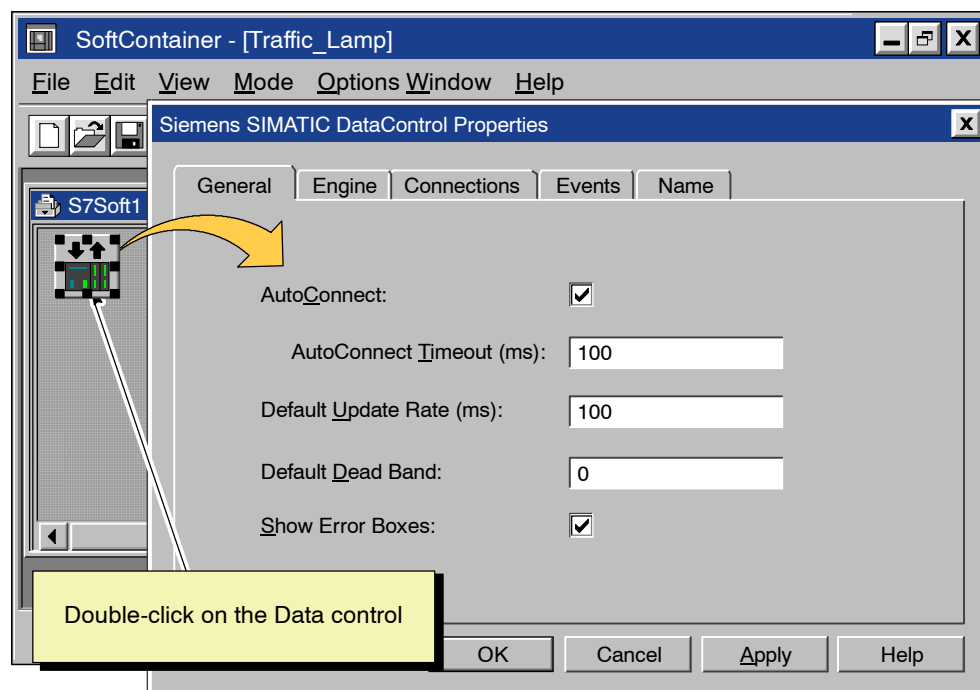

Figure 3-12 Accessing the Properties Dialog Box for the Data Control
2. As shown in Figure 3-12, double-click on the Data control (or click the right mouse button to display a pop-up menu and select the **S7Data1 Properties** menu command) to display the Properties dialog box for the Data control.